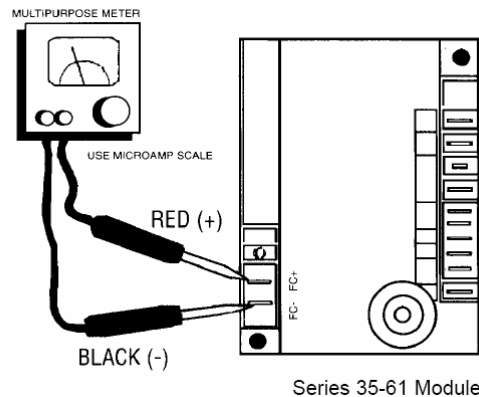

Figure 49 - Flame Sensor Current Check
Prior to completing the start-up, check the appearance of the main burner flame. See Figure 47 – 2.2mmHg (1.2” w.c.) Manifold and Figure 49 -6.5 mmHg (3.5” w.c.) Manifold for flame characteristics of properly adjusted natural gas systems.
1. The burner flame should be predominately blue in color and well defined and centered at the tube entry as shown in Figure 47 – 2.2mmHg (1.2” w.c.) Manifold and Figure 49 -6.5 mmHg (3.5” w.c.) Manifold. Distorted flame or yellow tipping of natural gas flame, or a long yellow flame on propane, may be caused by lint and dirt accumulation inside burner or at burner ports, at air inlet between burner and manifold pipe, or debris in the main burner orifice. Soft brush or vacuum clean affected areas after performing Shutdown procedure.